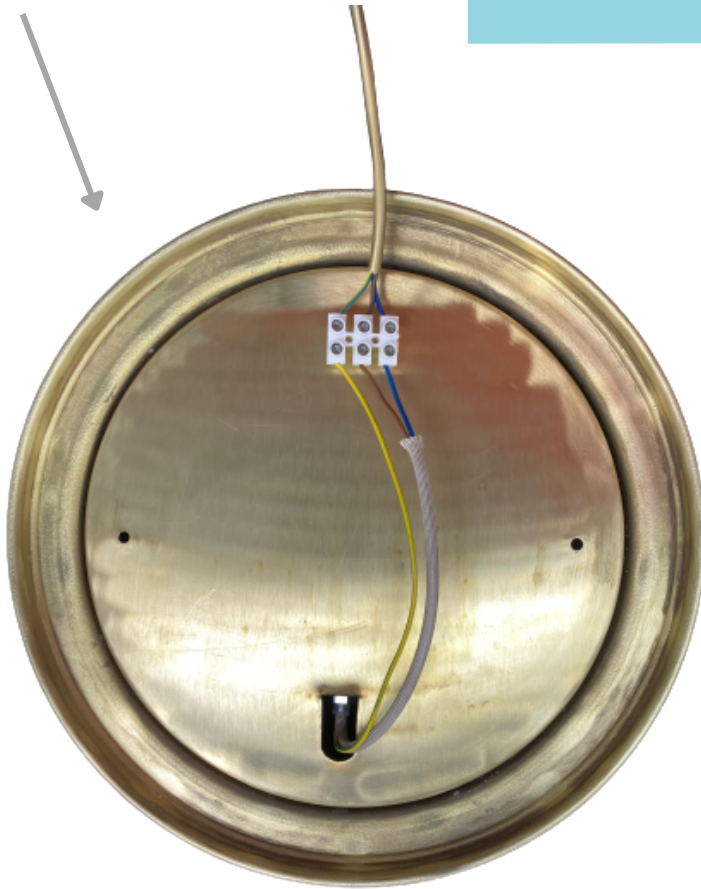

Figure 1
- ❖ 4. Thread the cable through the new ceiling plate then make the appropriate terminal connections using a connecting block (not supplied). Refer to figure 1 and 2.